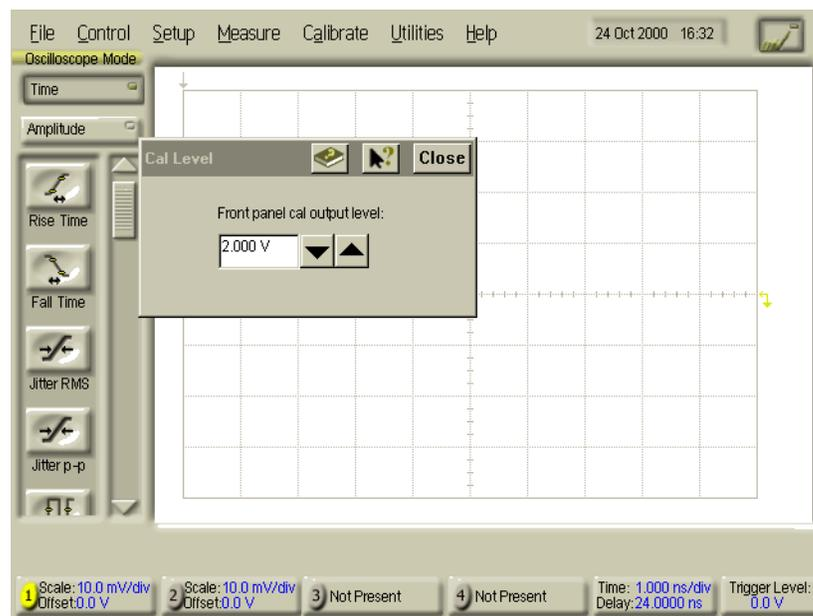

Figure 2-10. Front Panel Cal Output Level
- 2 On the DCA screen, press Calibrate, then press Front Panel Cal Output. See Figure 2-10.